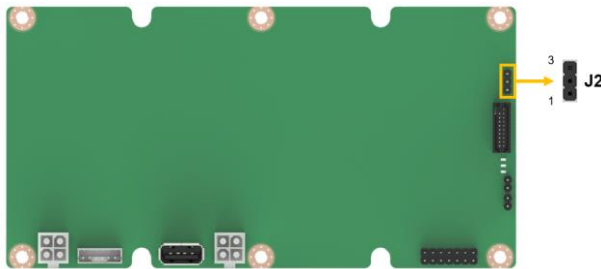

Figure 3-17: Debug Connector Location
- CN Location:** See **Figure 3-17**